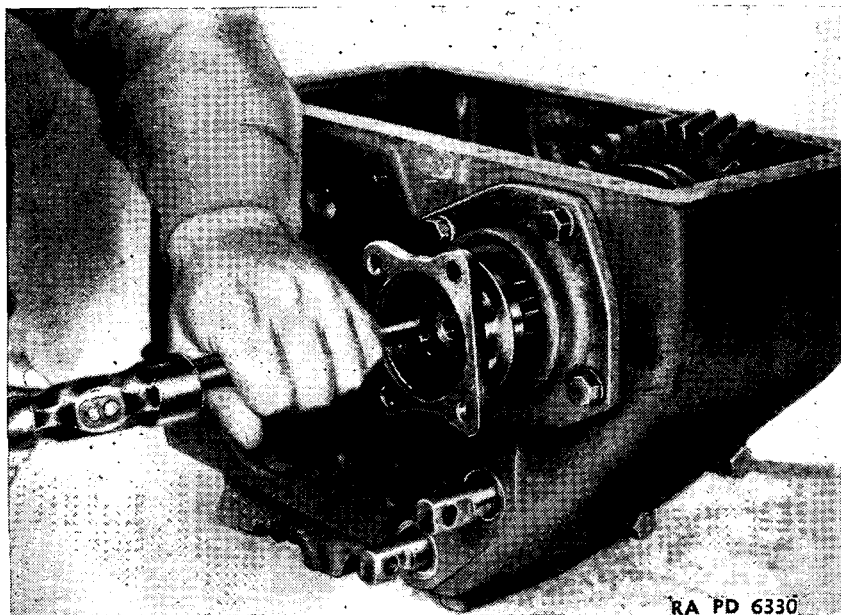

FIGURE 141.—Transfer case front-drive shaft companion flange replacement.
(19) Replace front-drive shaft rear bearing cap— $\frac{5}{8}$ -inch socket wrench. Replace cap and shims with two long and two short cap screws and four lock washers.
(20) Replace front-drive shaft companion flange—brass drift, hammer, pliers,  $\frac{1}{2}$ -inch socket wrench. Drive flange on front end of shaft and replace washer, nut, and cotter pin (fig. 141).